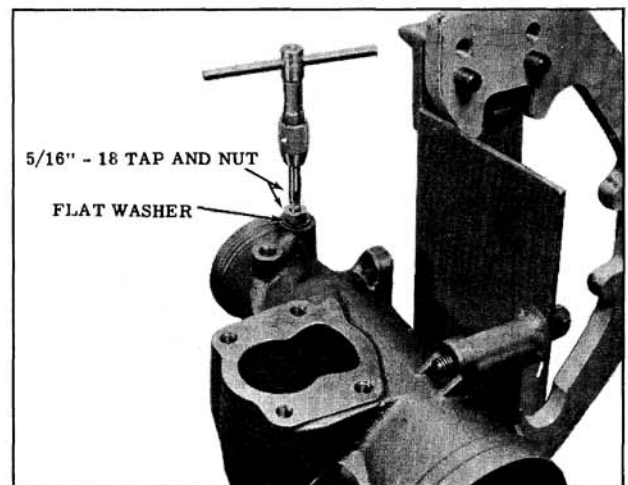

Fig. 8-65 Removing Connector Seal
3. With the steering gear in a vertical position, thread the tap into the connector seat not more than three turns. (Fig. 8-65)